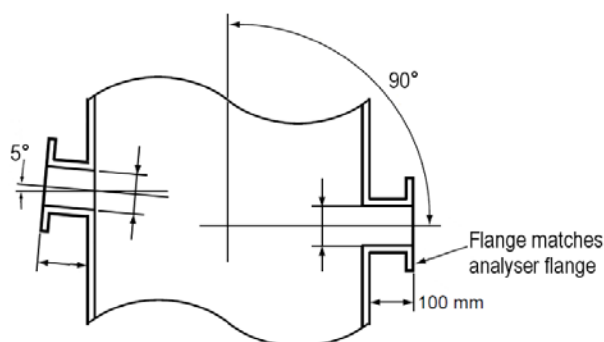

Figure 5-6 - Mounting Adaptor Details
**CAUTION:** The probe should be mounted horizontally, or at an angle of approximately 5° to the flue wall as shown Figure 5-6.